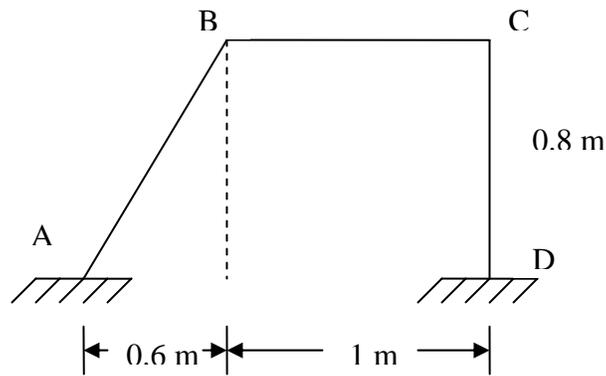

Fig. 6
- (b) Form the stiffness matrix for the frame shown in fig. 6.